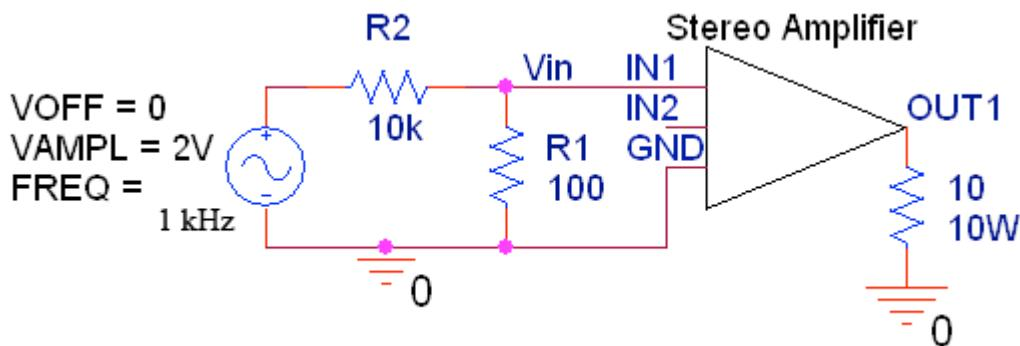

Figure 2: Circuit for Determining Gain of Stereo Amplifier
2. Set the power supply you built in the previous section to 12V (as measured on the digital multimeter), and then unplug the power supply. Attach the outputs of the power supply (+ and -) to the input voltage terminals (V+ and GND) on the stereo amplifier. Connect a 4V peak-to-peak sine wave at 1000Hz from the function generator to the input of the voltage divider (Vin) as shown in Figure 2. The stereo amplifier has two channels. Channel 1 contains an IN1 and a corresponding OUT1. Likewise, Channel 2 has an IN2 and OUT2. The output of the voltage divider will be the input into the first channel (IN1) of the stereo amplifier (the ground from the function generator should be connected to the INPUT GND terminal). Connect a  $10\Omega$ , 10W resistor across the output of the stereo amplifier (i.e., from OUT1 to the output ground). Plug in the power supply and record the peak-to-peak output voltage.